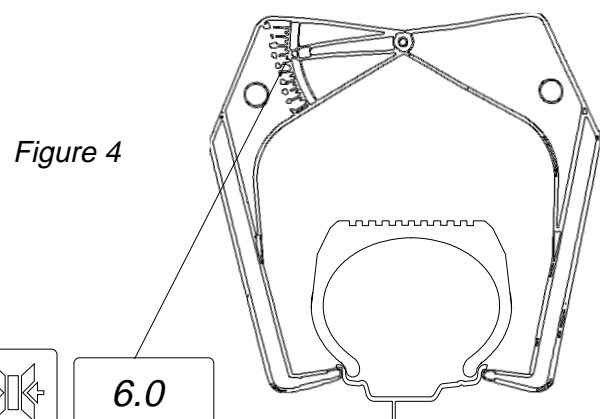

Figure 4
3. **Measure rim width** using rim width calipers. Measure wheel where corrective weight will be applied, *Figure 4*. Press wheel width button  and enter the measured diameter directly using the numeric keypad or use the **Quick Set** method by rotating the wheel assembly until the desired number appears in the width parameter window.